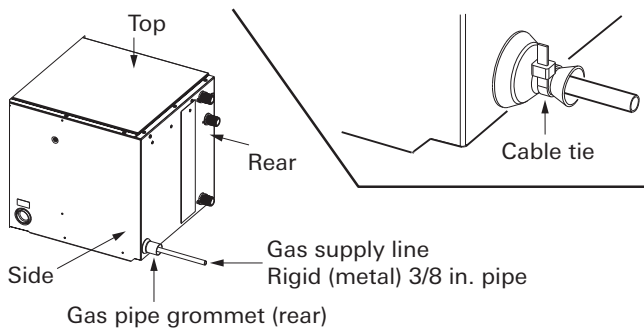

Fig. 30
- Close the cable tie so that the gas pipe grommet (rear) tightens the gas pipe passage (see Fig. 30).